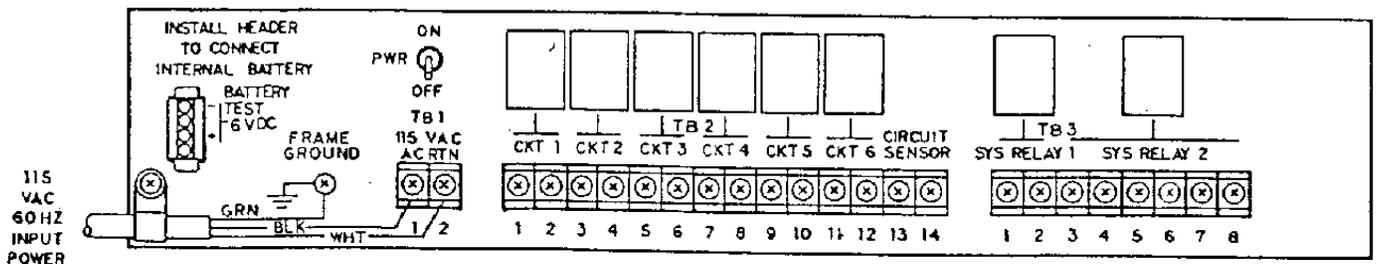

Figure 4 - Rear Panel Drawing.
3. Connect power to terminal block TB1. (See Figure 4.)